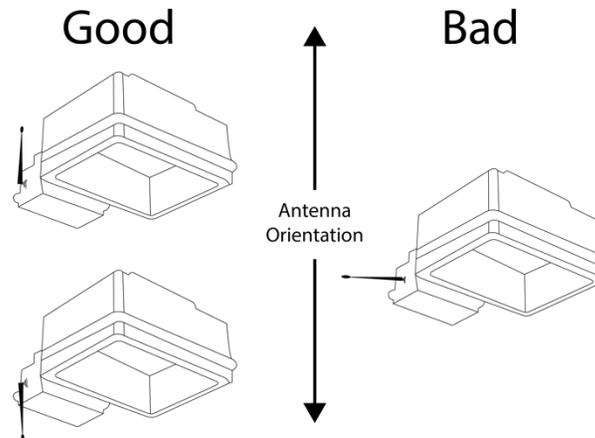

Figure 1 - Proper Antenna Installation
- When installing the EMB-S2-A into an enclosure, consideration of the external antenna position and any interference is required to provide the best wireless signal strength. Prior to permanently mounting it, make sure the antenna points directly upward or downward and is free of any metal objects within 2 inches of the antenna (Figure 1).